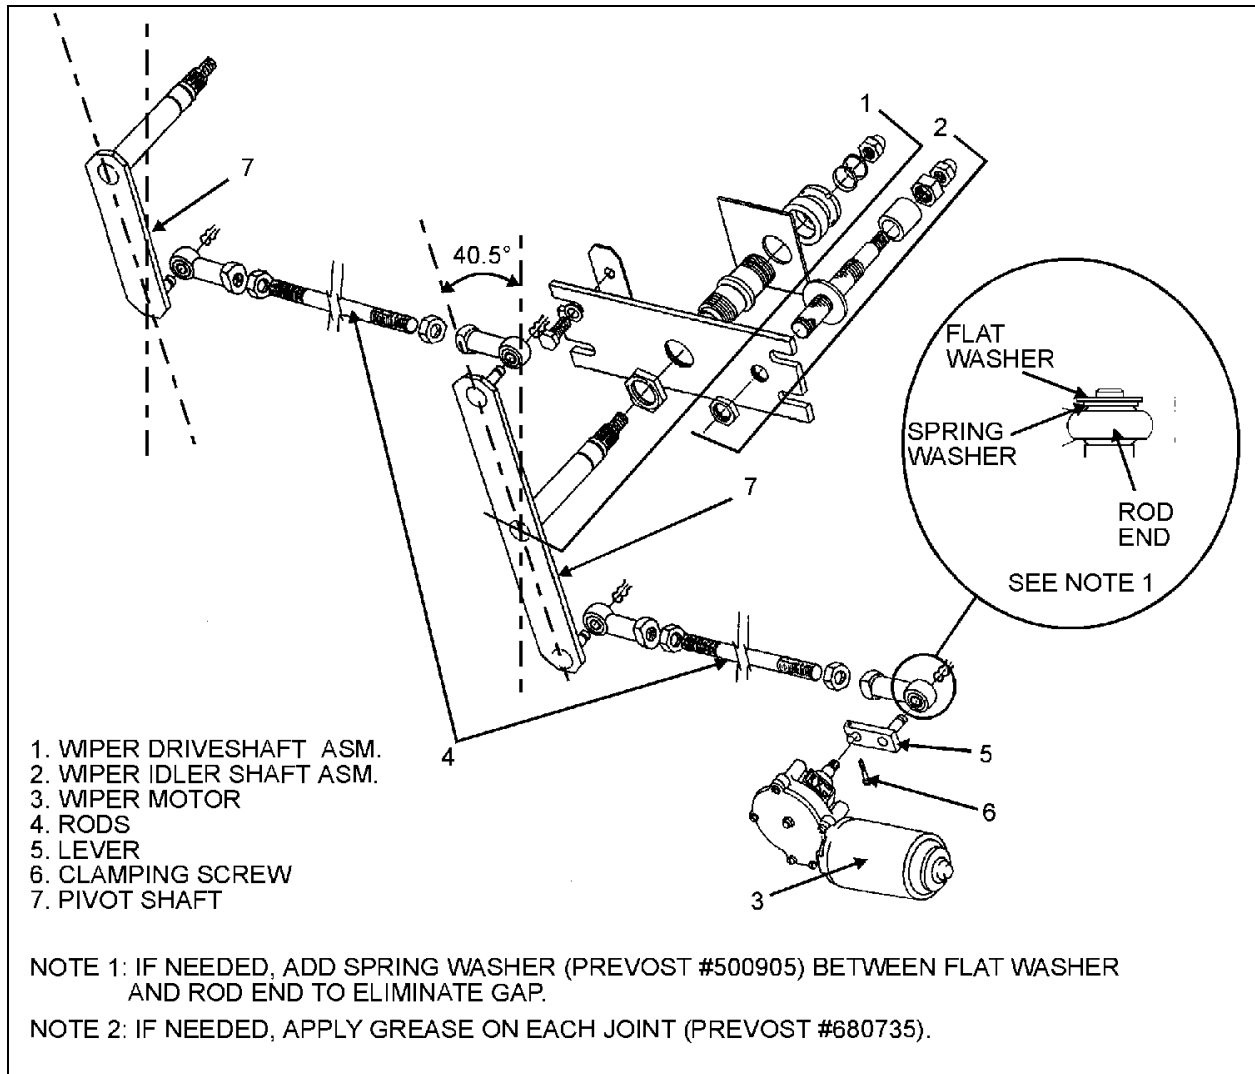

FIGURE 40: LOWER WINDSHIELD WIPER INSTALLATION
4. Adjust the rod located between right pivot shaft and motor to a 40.5° angle (Figure 40). The motor lever must be on the same axis as the rod.